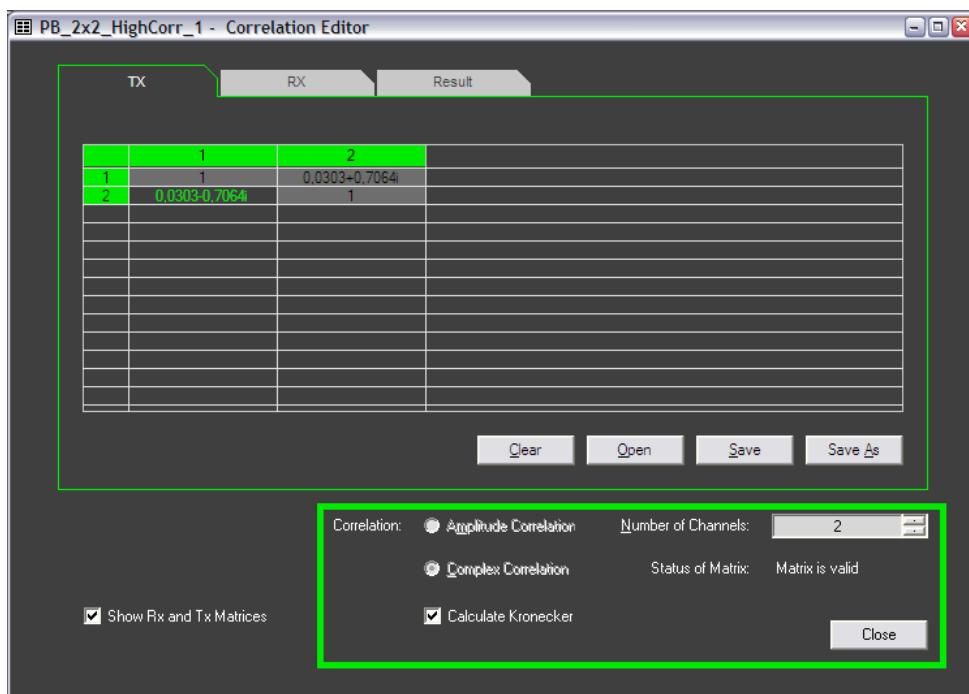

Figure 196 Creating TX correlation matrix for MIMO model
- c. Next select the **RX** tab and repeat the above-mentioned steps to input values for the RX correlation matrix. The user interfaces for the **TX** and **RX** tabs are identical, as shown in Figure 196.